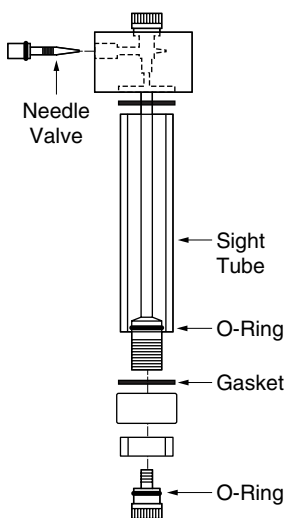

Figure 5 - Bubbler Assembly
- Refer to **Figure 5** Remove fill plug from top of bubbler. Loosen drain plug at bottom of bubbler and drain oil fill.